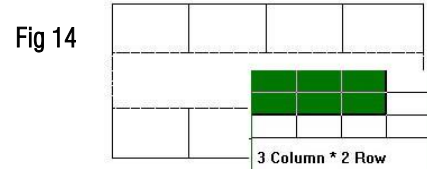

Fig 14
2. Specify the cell which needs to be split. (Fig14).